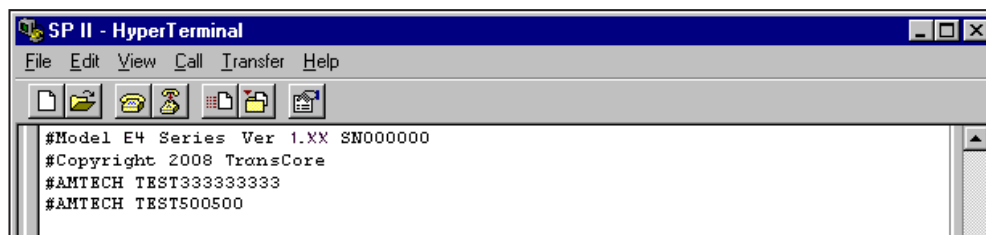

Figure 31 Second Successful Tag Read
5. When the MPRX reads the second tag successfully, the terminal emulation application displays that tag’s information in the main screen below the information for the first tag, as shown in Figure 31.